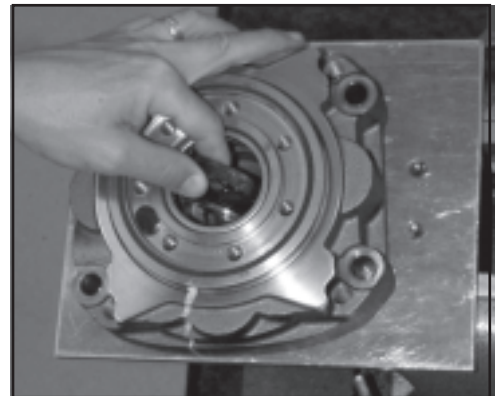

Figure D12
13. Inspect radial needle bearing, thrust bearing, and thrust washers in rear housing. *The radial bearing must be removed to replace thrust bearing and thrust washers. Use a bearing puller to remove the bearing. If original bearing is removed a new bearing must be used during reassembly. SEE FIGURE D12*